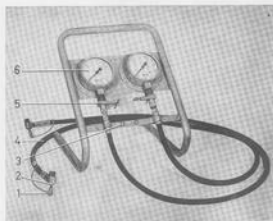

Fig. 5-2. Testing device 2241
The testing device (Fig. 5-2) is used, for example, to trace faults in the brake system.
2. Remove both the inside bleeder nipples at one of the front brake calipers and connect up the testing device 2741 shown in Fig. 5-2. Nipple 2920 is also used for the ATE.